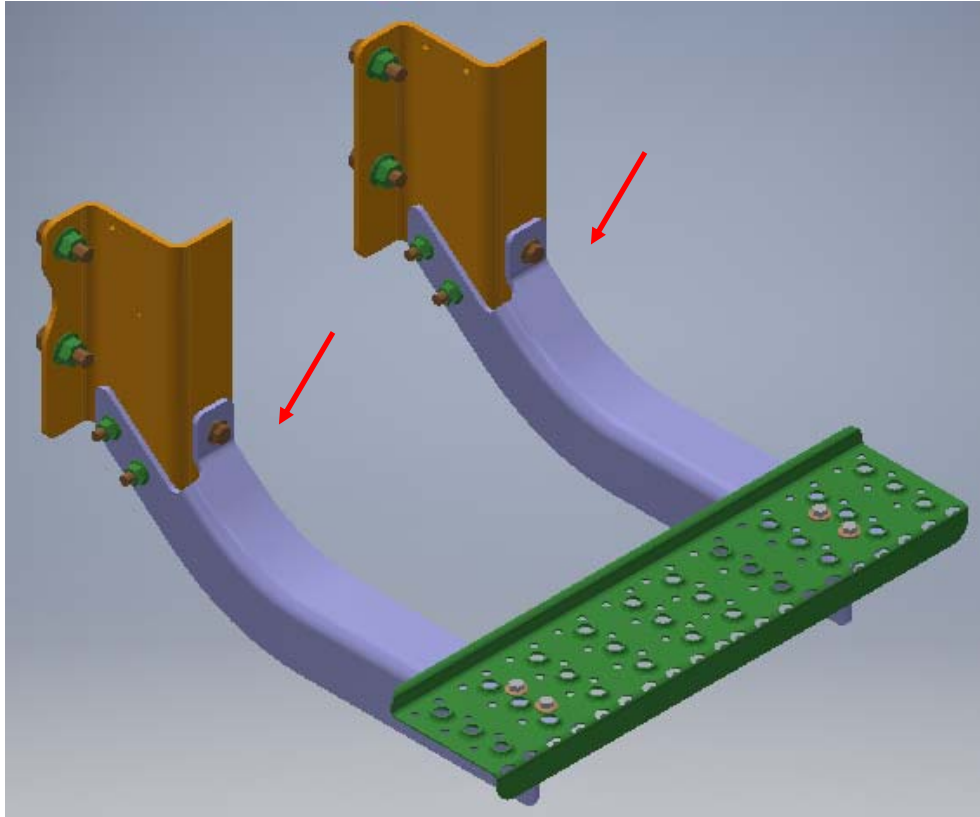

Figure 2: Step Bolts To Be Removed/Re-Used
4. Working at the rear step on the Driver's Side, locate the two 12mm bolts and remove. We will be re-using these bolts. (Figure 2) (Photo 1)